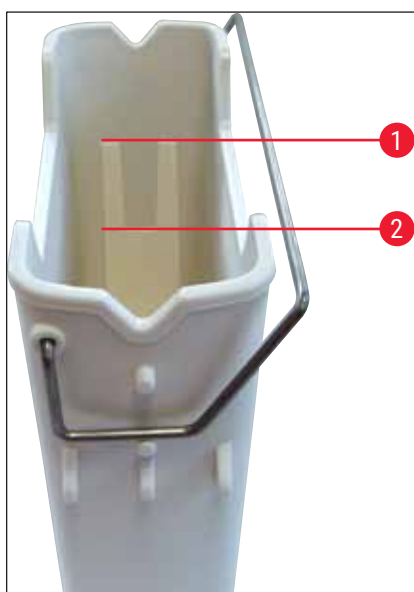
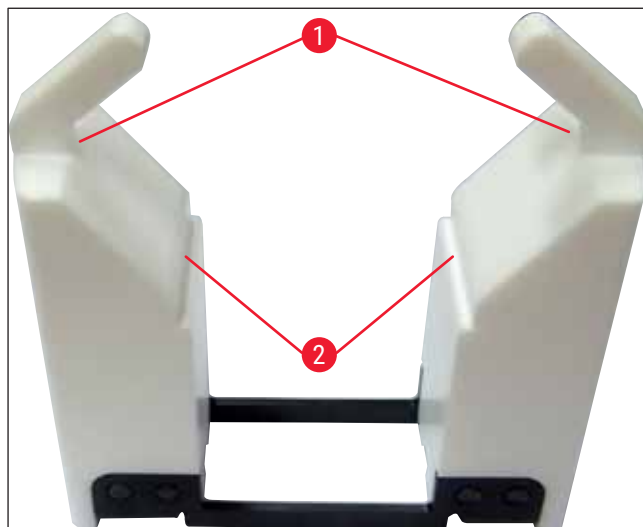

Fig. 66
Fig. 67
Check whether the reagent vessel handle is correctly attached to the reagent vessel. If this is not the case, fasten the handle according to (→ "Fig. 66").
- When filling either reagent vessel type, observe the fill level marks inside the reagent vessels (→ "Fig. 66") (→ "Fig. 67").
- If inserts for special stainings (→ "Fig. 67") are used in the reagent vessels in order to reduce reagent volume, insert these into the reagent vessel first and then fill the reagent at least up to the minimum filling level indicated (→ "Fig. 67-2"), but not over the maximum filling level (→ "Fig. 67-1").